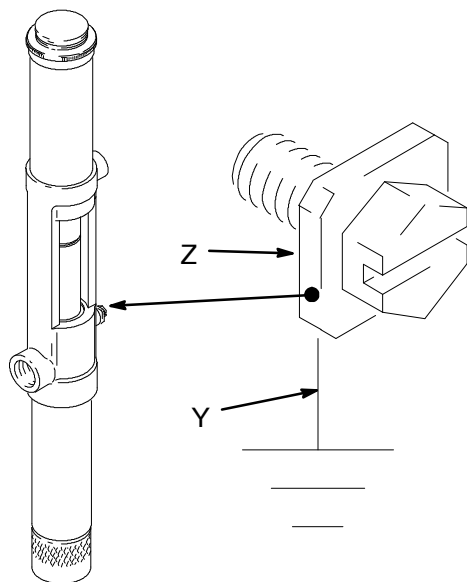

Fig. 2
- *Pump:* Use a ground wire and clamp as shown in Fig. 2.